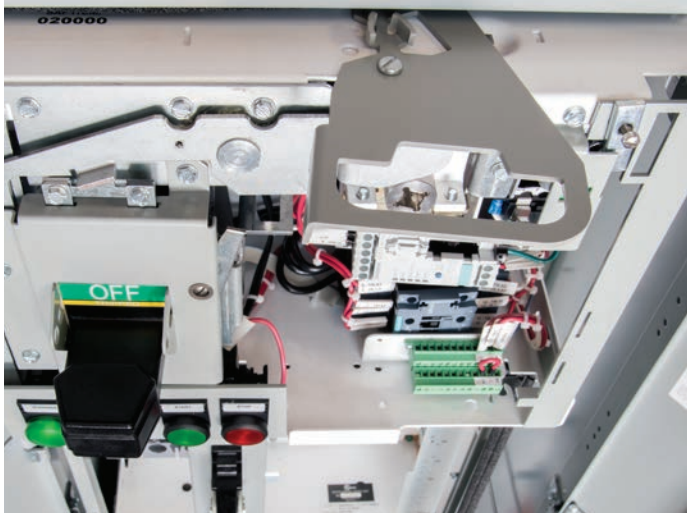

Figure 6: Placing unit on support assembly and in TEST position
7. Place plug-in unit inside of the enclosure (refer to Figure 6).